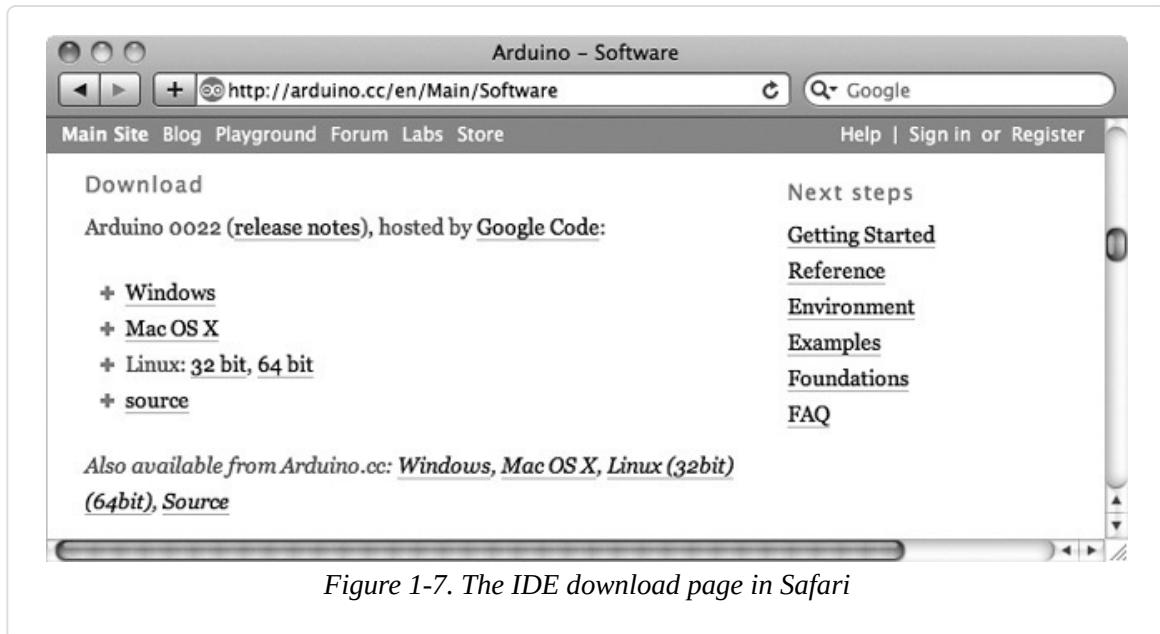

Figure 1-7. The IDE download page in Safari
1. Using a web browser such as Safari, visit the software download page located at <http://arduino.cc/en/Main/Software/>, as shown in Figure 1-7.